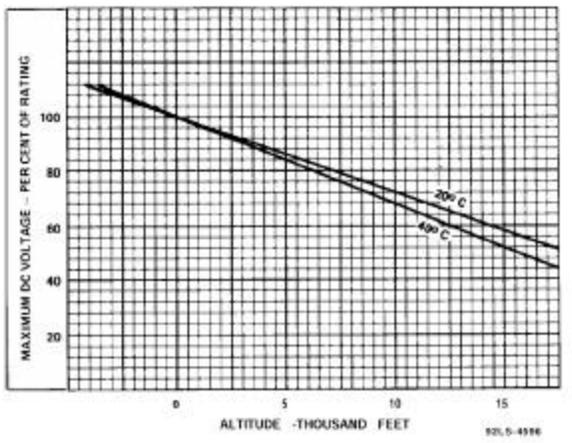

Figure 1 - Maximum DC Voltage vs Altitude
- The maximum voltage ratings must be modified for operation at altitudes higher than sea level and for temperatures in excess of 20° C in accordance with the curves of Figure 1.